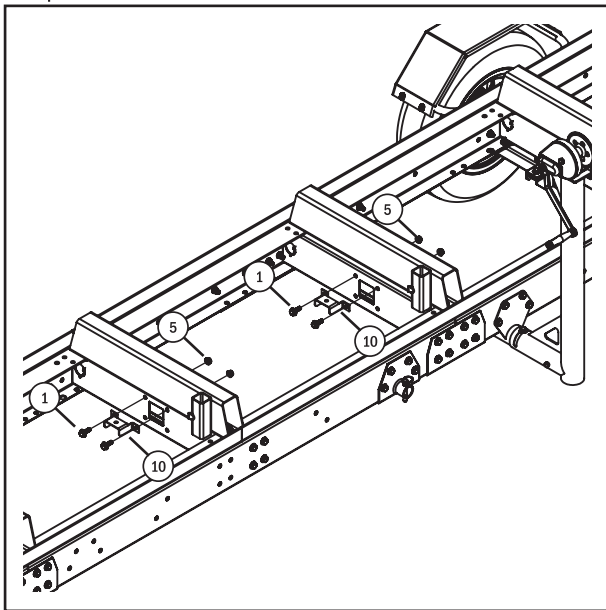

Fig. 3
Step 7: Install the Bottom Clamp Plates to the Trailer. Install the two Bottom Clamp Plates (10) to the trailer cross beams, as shown in Fig. 3 using four M10 x 30 Flange Head Bolts (1) and M10 Self-Locking Flange Head Nuts (5). Torque these fasteners to between 32 and 37 ft. lbs.